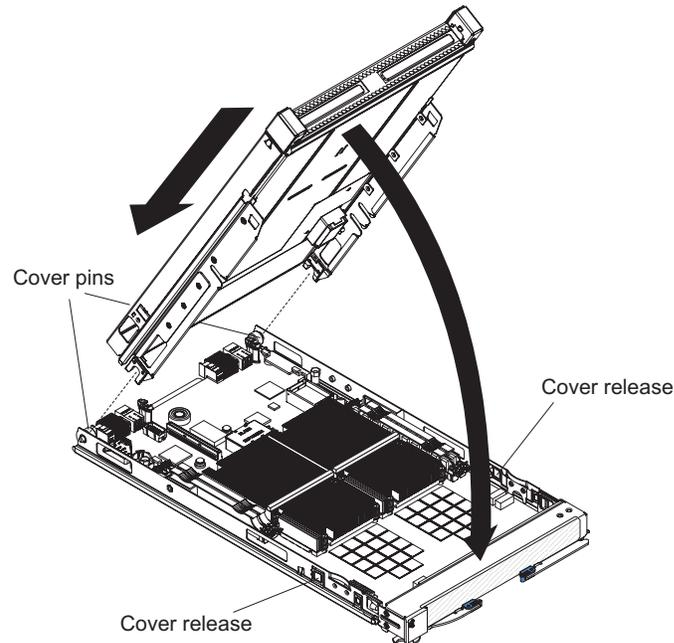

Figure 19. Installing the expansion unit
4. Lower the expansion unit so that the slots at the rear slide down onto the cover pins at the rear of the blade server, as shown in Figure 19.
5. Carefully close the expansion unit as shown in Figure 19 until it clicks into place.